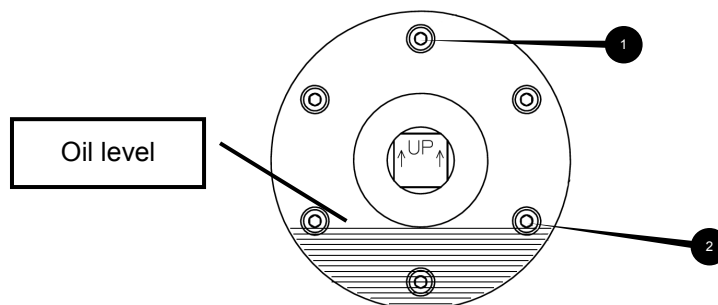

Figure 6: Drum motor without filler plug
- Motor without filler plug (refer to Figure 6: Drum motor without filler plug)
6. Loosen the top screw ❶ from the endflange at the connection side slowly to release any air pressure within the drum, this is normal.
7. Now loosen screw ❷. Rotate the drum motor until screw ❷ is at the 6 o'clock position and drain the oil.
9. Refill the drum motor with the recommended type and quantity of oil. The oil level should be just below screw ❷.
10. Renew the copper washers ❶❷ and replace the screws.